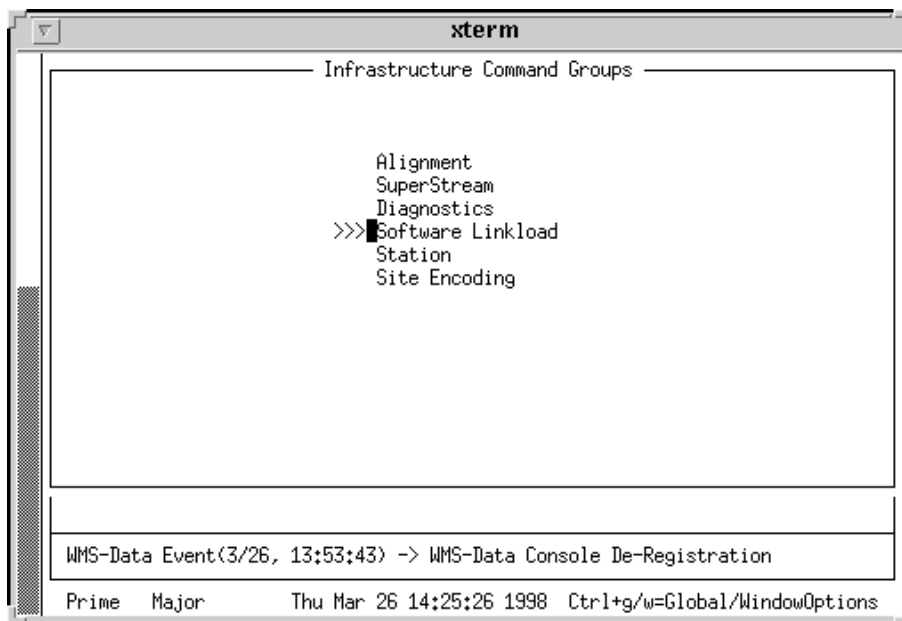

Figure 6-1: Select Software Linkload
1. From the Infrastructure Command Groups menu, use the <tab> to position the cursor to the left of the listing Software Linkload and press: <Return> (see Figure 6-1).